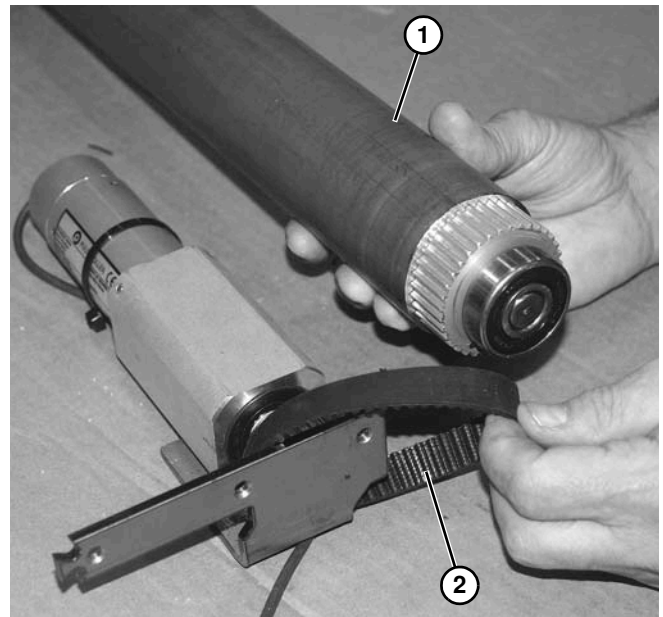

Figure 73
8. Remove pulley (**Figure 73, item 1**) off of timing belt (**Figure 73, item 2**). Replace pulley.